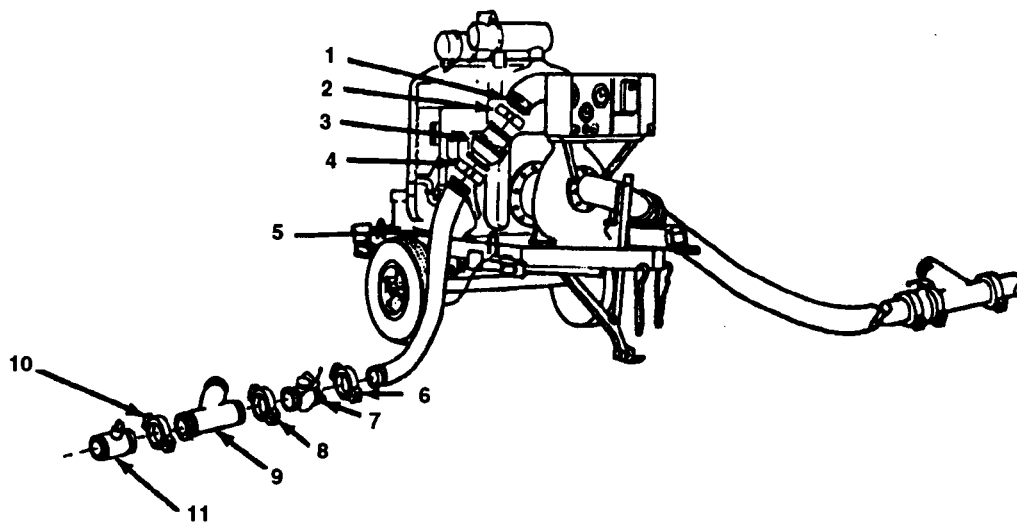

Figure 2-19. Boost Pumping Station and Discharge Components Assembly.
- f. Remove plastic cap from discharge port (Figure 2-19, 1) on 600 GPM pumping assembly, reference applicable technical manual for discharge port location on 600 GPM pumping assemblies not shown. If plastic cap has not been removed, remove it and retain cap for movement or storage.